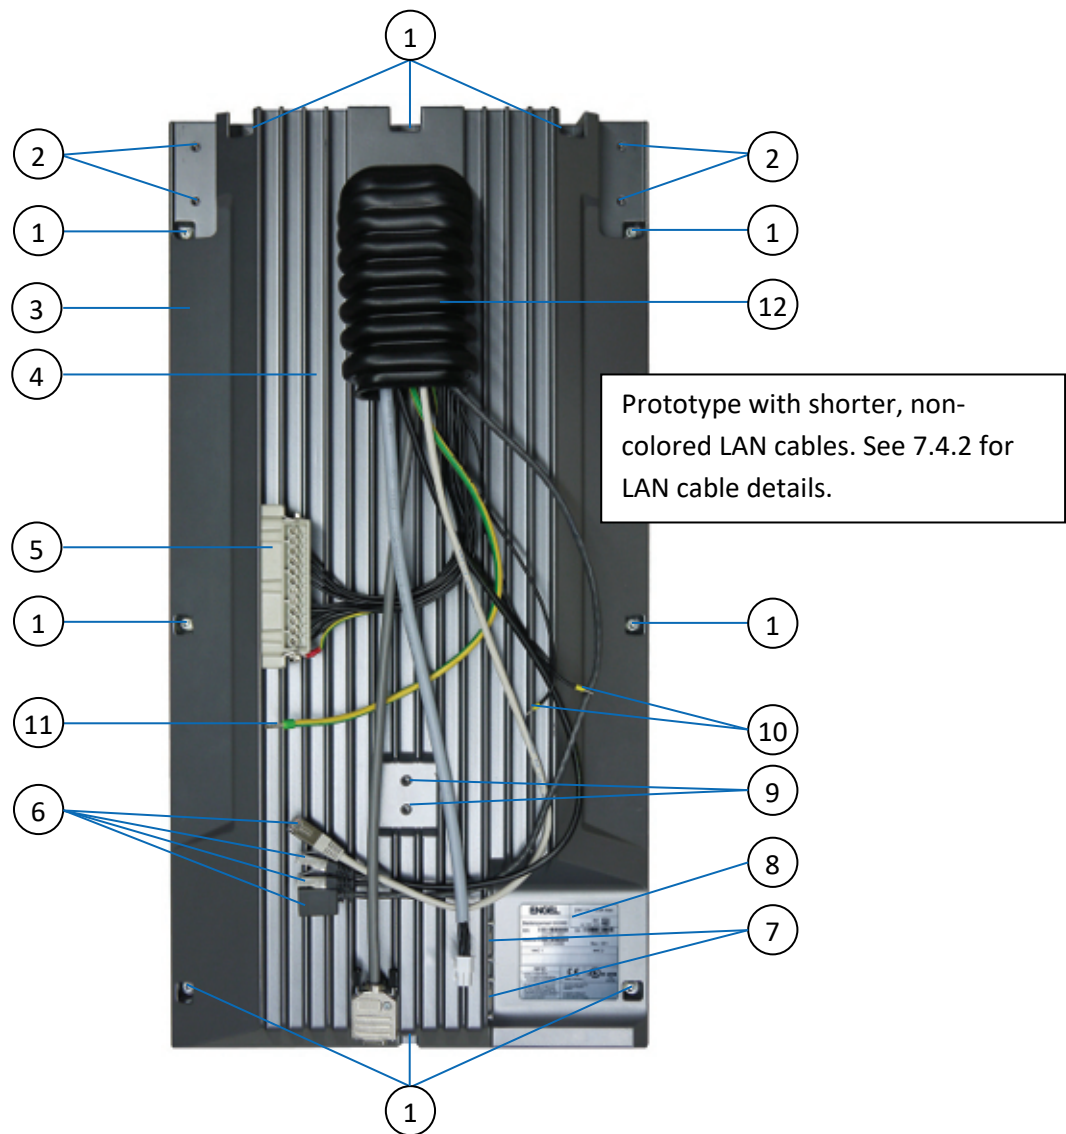
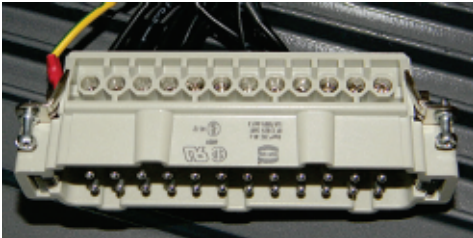

Fig. 17: Rear side of the CC300 operator panel
Fig. 18: Harting connector
The nameplate is located at the bottom rear side of the cabinet (see also Fig. 17, Pos. 8).
Legend for Fig. 17 :
All outgoing cables of the CC300 operator panel are routed through the cable gland at the rear side of the cabinet (see also Fig. 17, Pos. 12). Except for the cables for the linear actuator and the grounding cable, all single wires are combined in the 24-pole Harting connector (Fig. 18). For the pin assignment of the Harting connector, refer to chapter 11.1.1 “Harting Connector”.
The two single cables marked “1” and “2” (see Fig. 17, Pos. 10) will be connected to the linear actuator of the tilting mechanism. The maximum allowed connection power is 44 W.
The CC300 operator panel must be grounded by establishing a **large-area contact** between the grounding cable (see also Fig. 17, Pos. 11) and an appropriate grounding contact. The cross section of the grounding cable is 6 mm².
2. Remove the 10x screws (M5 x 10) and the bonded seals that fix the rear cover to the front plate (see Fig. 17, Pos. 1).
4. Fix the rear cover to the front plate with the 10x screws (M5 x 10) and bonded seals removed in chapter 7.5.1 “Opening the CC300 Operator Panel”, step 2 (see Fig. 17, Pos. 1).